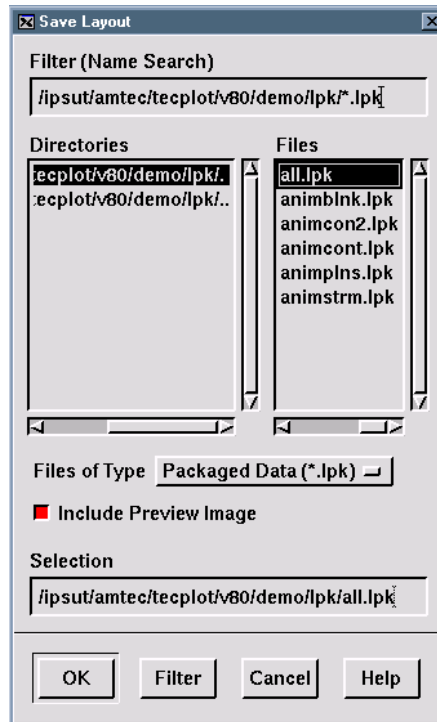

Figure 6-14. The Save Layout dialog in Motif, showing the Packaged Data (*.lpk) and Include Preview Image options.
2. Choose “Packaged Data (*.lpk)” from the Files of type drop-down, as shown in Figure 6-14.